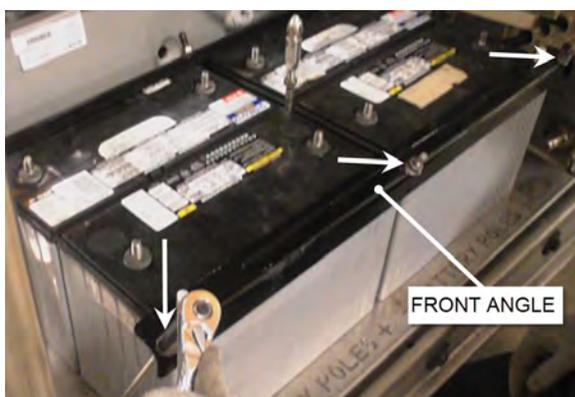

FIGURE 47: REMOVE THE FRONT ANGLE
5. Unscrew three nuts (indicated with arrows) and then remove the front angle (FIGURE 47).